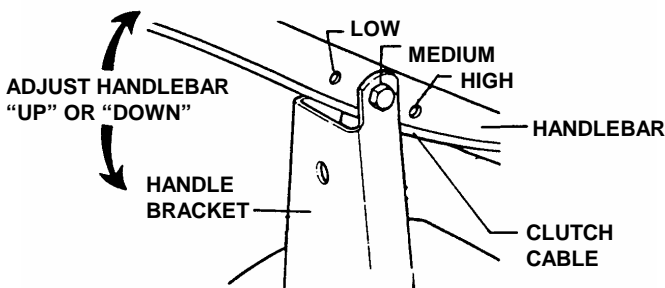

FIGURE 2
STEP 3: Handle bar adjustment can be made by removing Part Number 9-0831, Hex Cap Screw and Part Number 9-1067, Hex Lock Nut from handle bar bracket and handle bar and moving into another hole position. Adjust handle bar "UP" or "DOWN" as required in the corresponding "Low", "Medium", or "High" holes located in the handle bar. See Figure 2.